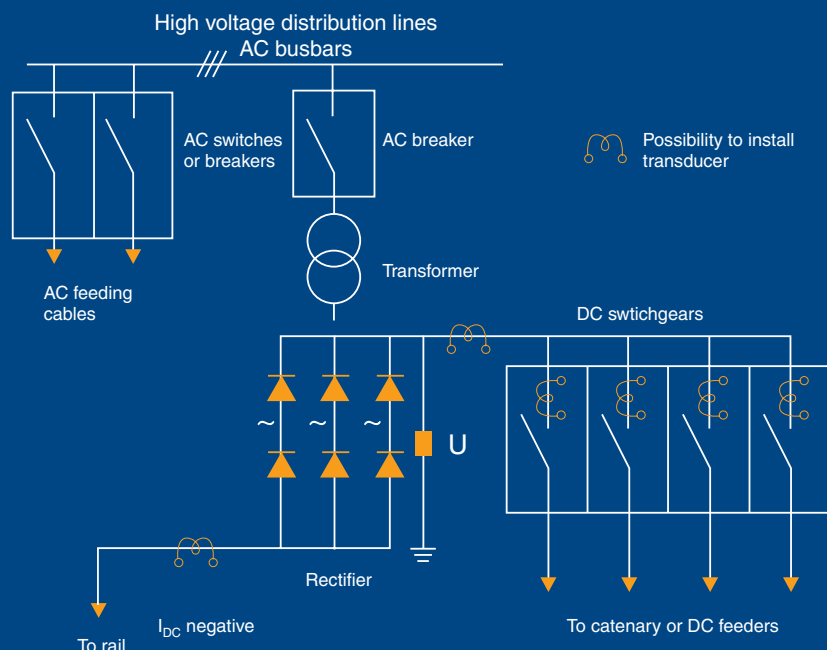

Figure 6: Typical Substation layout.
Generally, they are made up of (figure 6):
It is not unusual to find current transducers measuring earth leakage current from the rectifier to the rail (as represented in figure 6).
with defined trigger levels to open the switchgear without delay (as represented figure 6).
- During medium to high impedance short circuits, the DC switchgear must open within a few hundred milliseconds. Again, the combination of the current transducer and relay will trigger the switchgear to open, however, electronic analysis of the transducer output waveform would allow further consideration and decision making (as represented figure 6).
The protection can also be ensured by measuring the current at the rectifier output using the same current transducers previously indicated, and represented in figure 6.
The voltage at the DC switchgear or the DC busbar (rectifier output) is often monitored to ensure the right voltage supplied to the catenary (The **DV Voltage** transducers are possible voltage transducers solutions as represented figure 6).